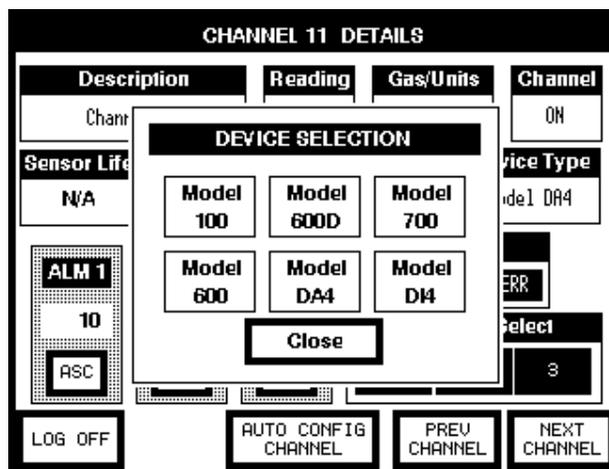

Figure 38 Device Type Selection
2. The sensor/device can be input manually by selecting the Device Type. This will open a window that will allow the user to select the type of device that is being attached (Figure 38). The controller will then try to communicate with the appropriate sensor or I/O module.